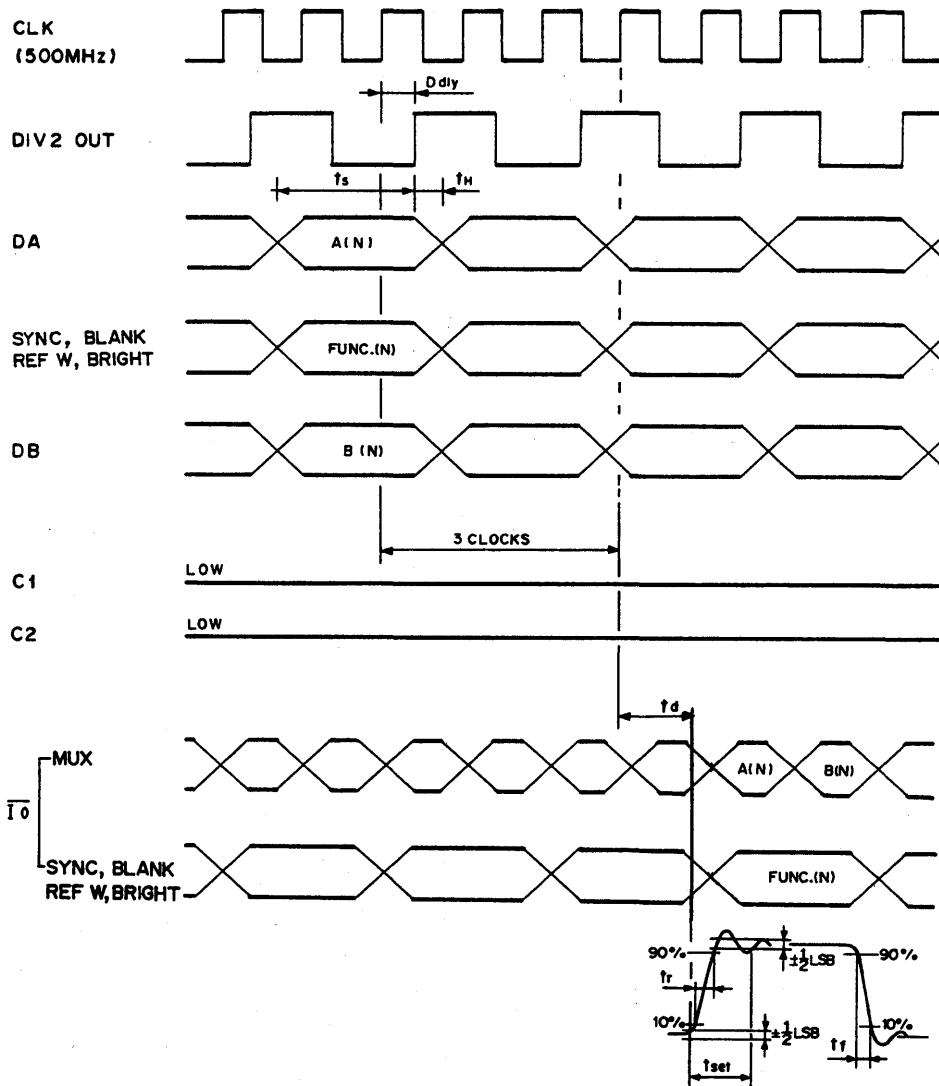
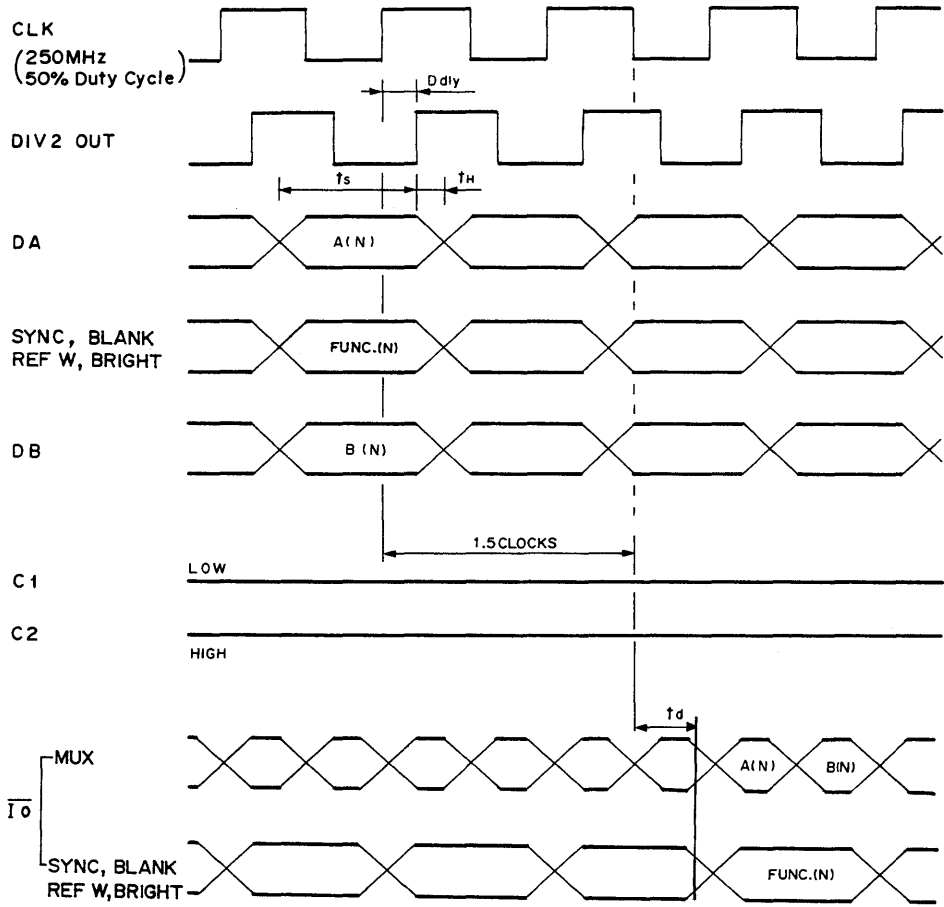

Fig. 2. Timing Diagram – MUX MODE (1)
Fig. 3. Timing Diagram – MUX MODE (2)
<p>DIV2OUT  <math>\overline{\text{DIV2OUT}}</math></p>	<p>Differential ECL compatible outputs.                      In case of "multiplex mode (1)", these output pins provide a clock output having half the speed of CLK and <math>\overline{\text{CLK}}</math>.                      When CLK and <math>\overline{\text{CLK}}</math> are 500MHz, DIV2OUT and <math>\overline{\text{DIV2OUT}}</math> are 250MHz. See Fig. 2. If <math>\overline{\text{DIV2OUT}}</math> pin is connected with DIV2IN pin, as illustrated is Fig. 6, 500Mbit/sec analog data can be obtained.                      In case of "multiplex mode (2)", the frequency of DIV2OUT and <math>\overline{\text{DIV2OUT}}</math> is the same as that of CLK and <math>\overline{\text{CLK}}</math>, as long as the CLK duty cycle is 50%. See Fig. 3.                      In case of "data select mode", the frequency of DIV2OUT and <math>\overline{\text{DIV2OUT}}</math> is the same as that of CLK and <math>\overline{\text{CLK}}</math>. <math>\overline{\text{DIV2OUT}}</math> pin need not be connected. See Fig. 4 and Fig. 6.                      DIV2OUT and <math>\overline{\text{DIV2OUT}}</math> latch DA0 - DA7, DB0 - DB7, SYNC and BLANK input. (See Fig. 2, 3 and 4.)                      These signals can also be used for system clock to be provided to other peripheral portion of the system.</p>